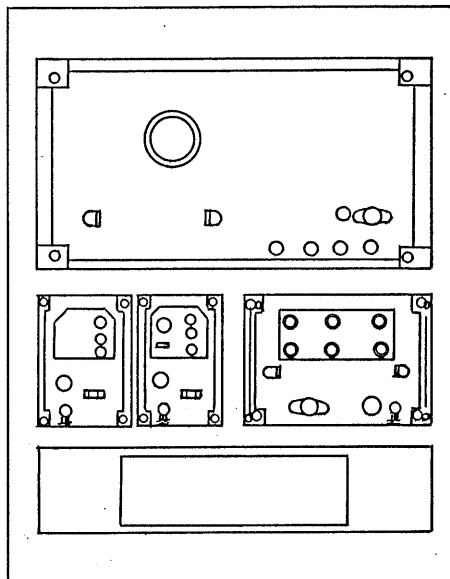

Fig. 4-2.
4.2 Description of Rear Panel (Refer to Fig. 4-2.)